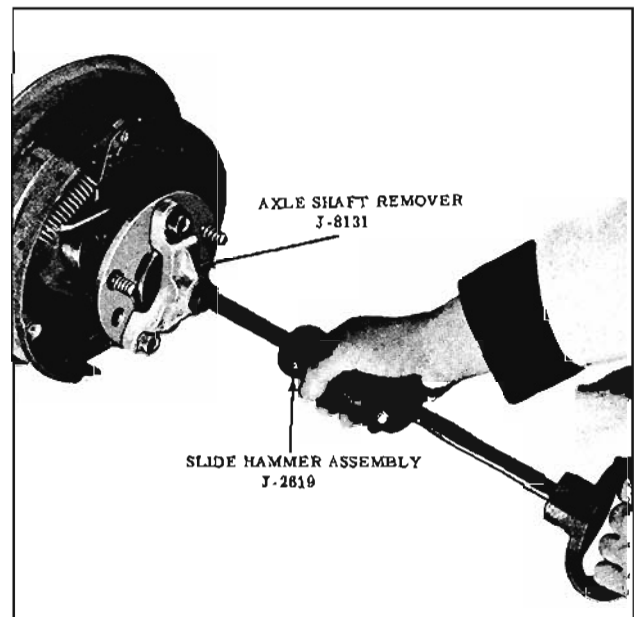

Fig. 9-40 Removing Axle Shaft
5. Pull axle shaft and bearing assembly from housing. Use Tool J-942-1 and Slide Hammer J-2619 if bearing is a tight press fit in the axle housing. (Fig. 9-40)